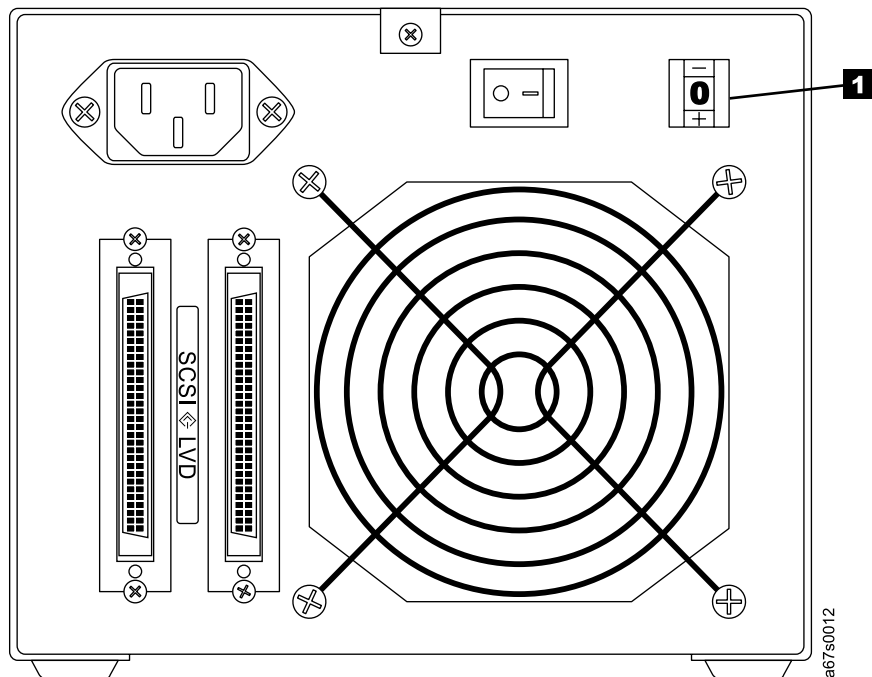

Figure 18. Checking the setting on the SCSI address switch. The switch is located at the rear of the 3580 Tape Drive.
1. Check the SCSI address switch (**1** in Figure 18) to ensure that it is set to the SCSI ID that you chose in "Step 5. Setting the SCSI ID" on page 8.